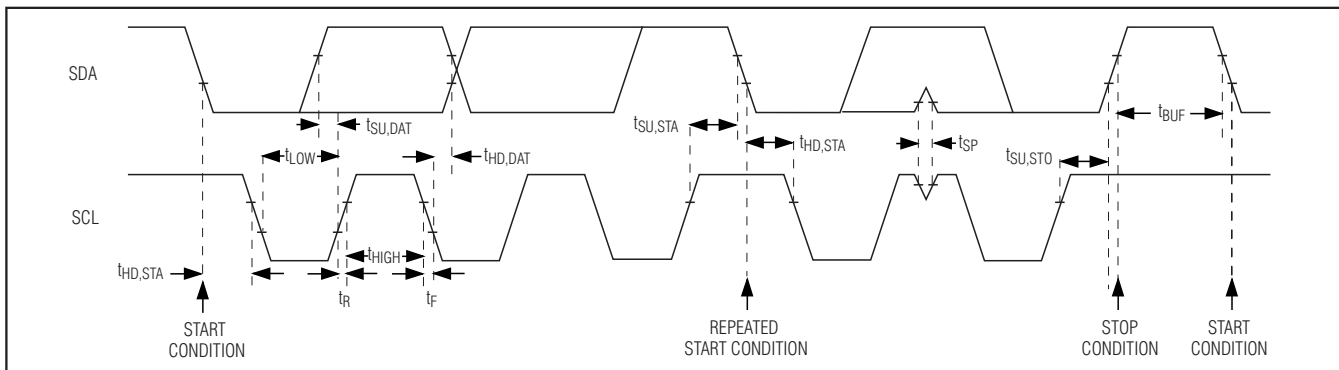

Figure 1. I2C Serial-Interface Timing Diagram
I2C TIMING CHARACTERISTICS (Figure 1)
The MAX9669 features an I2C/SMBus™-compatible, 2-wire serial interface consisting of a serial-data line (SDA) and a serial-clock line (SCL). SDA and SCL facilitate communication between the MAX9669 and the master at clock rates up to 400kHz. Figure 1 shows the 2-wire interface timing diagram. The master generates SCL and initiates data transfer on the bus. A master device writes data to the MAX9669 by transmitting the proper slave address followed by the register address and then the data word. Each transmit sequence is framed by a START (S) or REPEATED START (Sr) condition and a STOP (P) condition. Each byte is serially transmitted to the MAX9669 as 8 bits and is followed by an acknowledge clock pulse. A master reading data from the MAX9669 transmits the proper slave address followed by a series of nine SCL pulses. The MAX9669 transmits data on SDA in sync with the master-generated SCL pulses. The master acknowledges receipt of each byte of data. Each read sequence is framed by a START